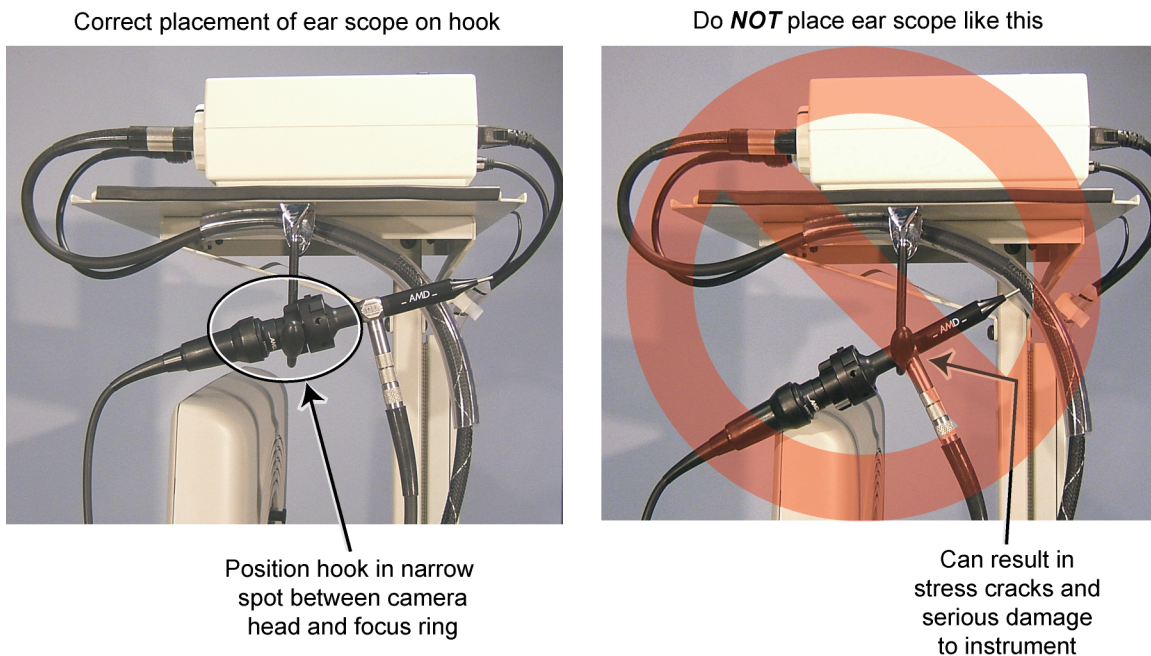

Figure 5
- Place the ear scope assembly on its hook so it does not put stress on the extension for the fiber optic bundle (Figure 5).